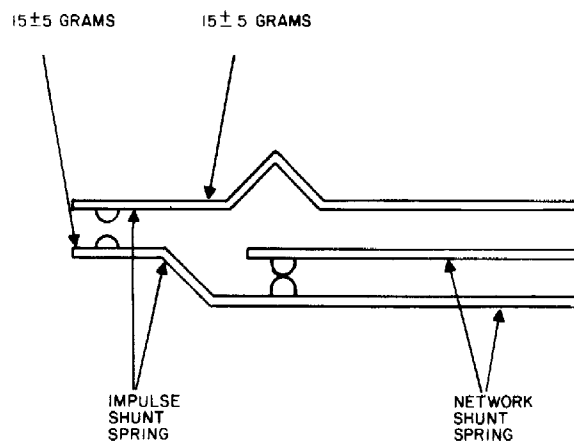

Figure 27. Impulse and Network Shunt Springs.
- (a) The impulse shunt springs must be adjusted so that they have a contact gap of 0.012 inch minimum and 0.020 inch maximum. The network shunt springs must be adjusted so that they have a contact gap of 0.012. See Figure 27 for the relative positions of the impulse and network shunt springs.
- (b) The impulse shunt spring must force the shunt cam gear against its upper bearing with a force of 15 ± 5 grams as measured in the off-normal position. Make measurement at the point indicated in Figure 27.
- (c) The tension of the impulse shunt springs must be 15 ± 5 grams as measured in the normal position. Make the measurement at the point indicated in Figure 27.